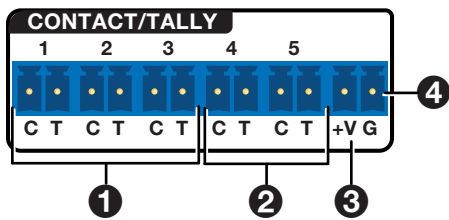

Figure 7. CONTACT/TALLY Ports
To identify the currently selected input when the front panel buttons are not visible, connect a device such as an LED to the CONTACT/TALLY connector and to the +V connector (see figure 7, ③ on page 9). When the input being used is selected, the corresponding TaLly Out pin shorts to ground, activating the connected indicator.
- Ports 1-3** (see figure 7, ❶) — These can be configured as a mutually exclusive input group to allow for input switching via Show Me (SM) cables. The selected input tally illuminates steadily when displayed, or blinks when muted.
3. Insert the power wires for the contact indicator devices into the +V connector (see figure 7, ③ on page 9).